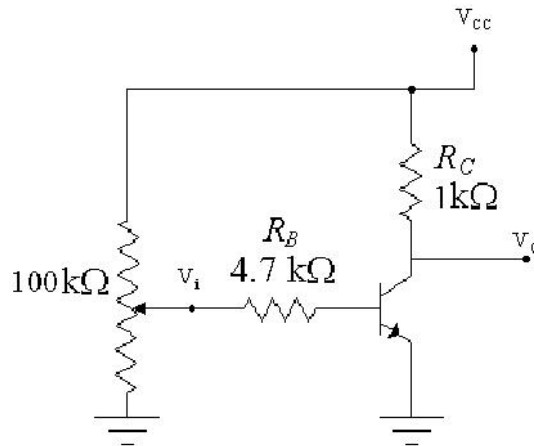

Figure 2 : Circuit Diagram .
- 1- Construct the circuit as show in Figure 2, using BCY58 transistor, 100 k Ω potentiometer, and two resistors. Adjust the dc supply to 5 volts.
- 4- Remove the potentiometer from the circuit of Figure 2, and connect a function generator at the input of the inverter (V_i). Adjust the function generator to get a triangular waveform of 6V (Peak-to-Peak) at 60 Hz. Observer V_i on channel 1 and V_o on channel 2 of the oscilloscope. Plot these waveforms on a graph paper with proper scales.